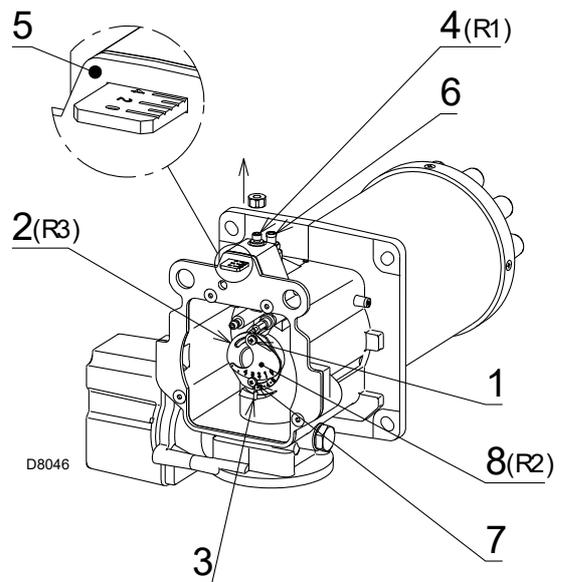

Fig. 19
- Rotate the screw 4)(Fig. 19) until the notch you have found corresponds with the front surface 5) of the flange.
To facilitate adjustment, loosen the screw 6)(Fig. 19), adjust and then lock.
- Rotate the shutter 8)(Fig. 19) until the notch you have found corresponds with the screw 1).
- Loosen the screws 1) and 7)(Fig. 19) and rotate the ring nut 2) until the notch you have found corresponds with the index 3).